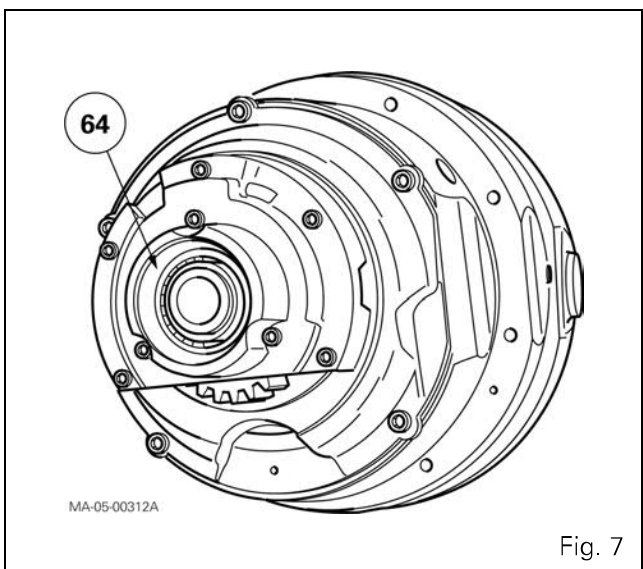

Fig. 7
18. On the Dynashift input unit (according to option), check that the cup (64) (Fig. 7) is fitted.